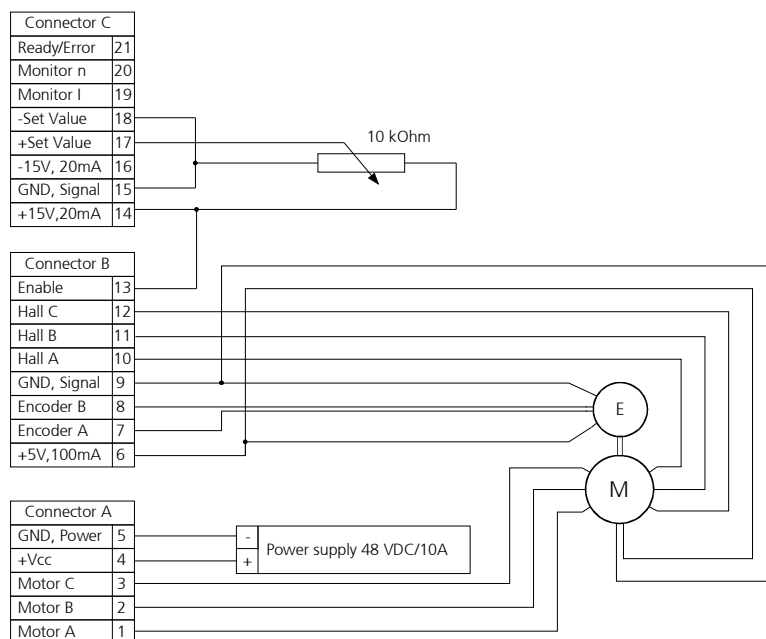

Figure 15 Connection plan with controller S-HV and micro annular gear pump mzs-11508
1. Connect the motor cables with an motor control unit (see Figure 15).